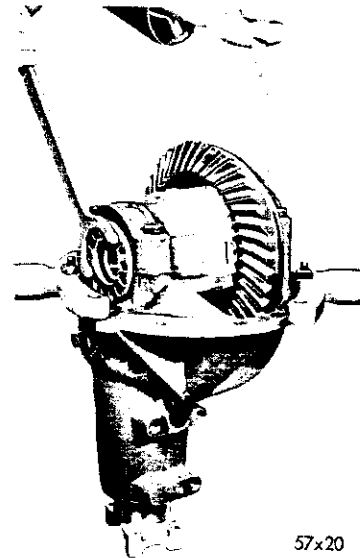

Fig. 26—Adjusting Differential Bearings
(1) Install the differential bearing cup on its respective bearing, and position the assembly in the carrier.
(2) Install the differential bearing caps, making certain that the identification marks on the cap correspond with those on the carrier. Install the attaching bolts and tighten the bolts of each cap by hand.
(3) Note the identification marks on the differential bearing adjusters and reinstall each in its respective side.
(4) Screw the adjuster in by hand. No attempt should be made at this time to apply an excessive pressure. To square the bearing cups with the bearing, turn the adjusters "in" with spanner wrench Tool C-406A (Fig. 26) until cups are properly squared with the bearings and end play is elimi-
of ring gear) (Fig. 26) in a notch at a time (notch referred to is the adjuster lock holes) until the backlash between the ring gear and pinion is a minimum of .006 inch to .008 inch. This will pre-load the bearings and establish the correct backlash.